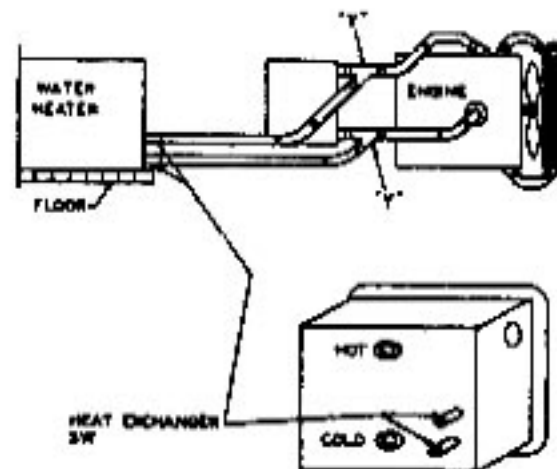

Figure 9
- A. Place copper "Y"s in heater as shown in Figure 9.